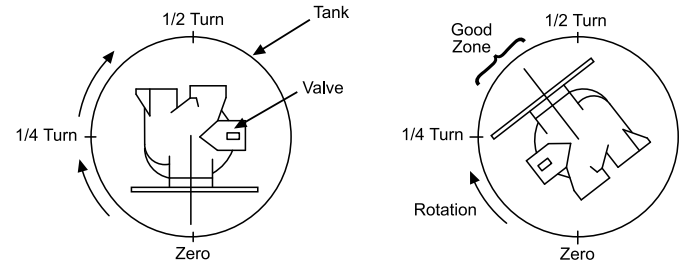

Figure 4
3. Rotate the valve clockwise from zero, between ¼ turn and ½ turn (Figure 4).